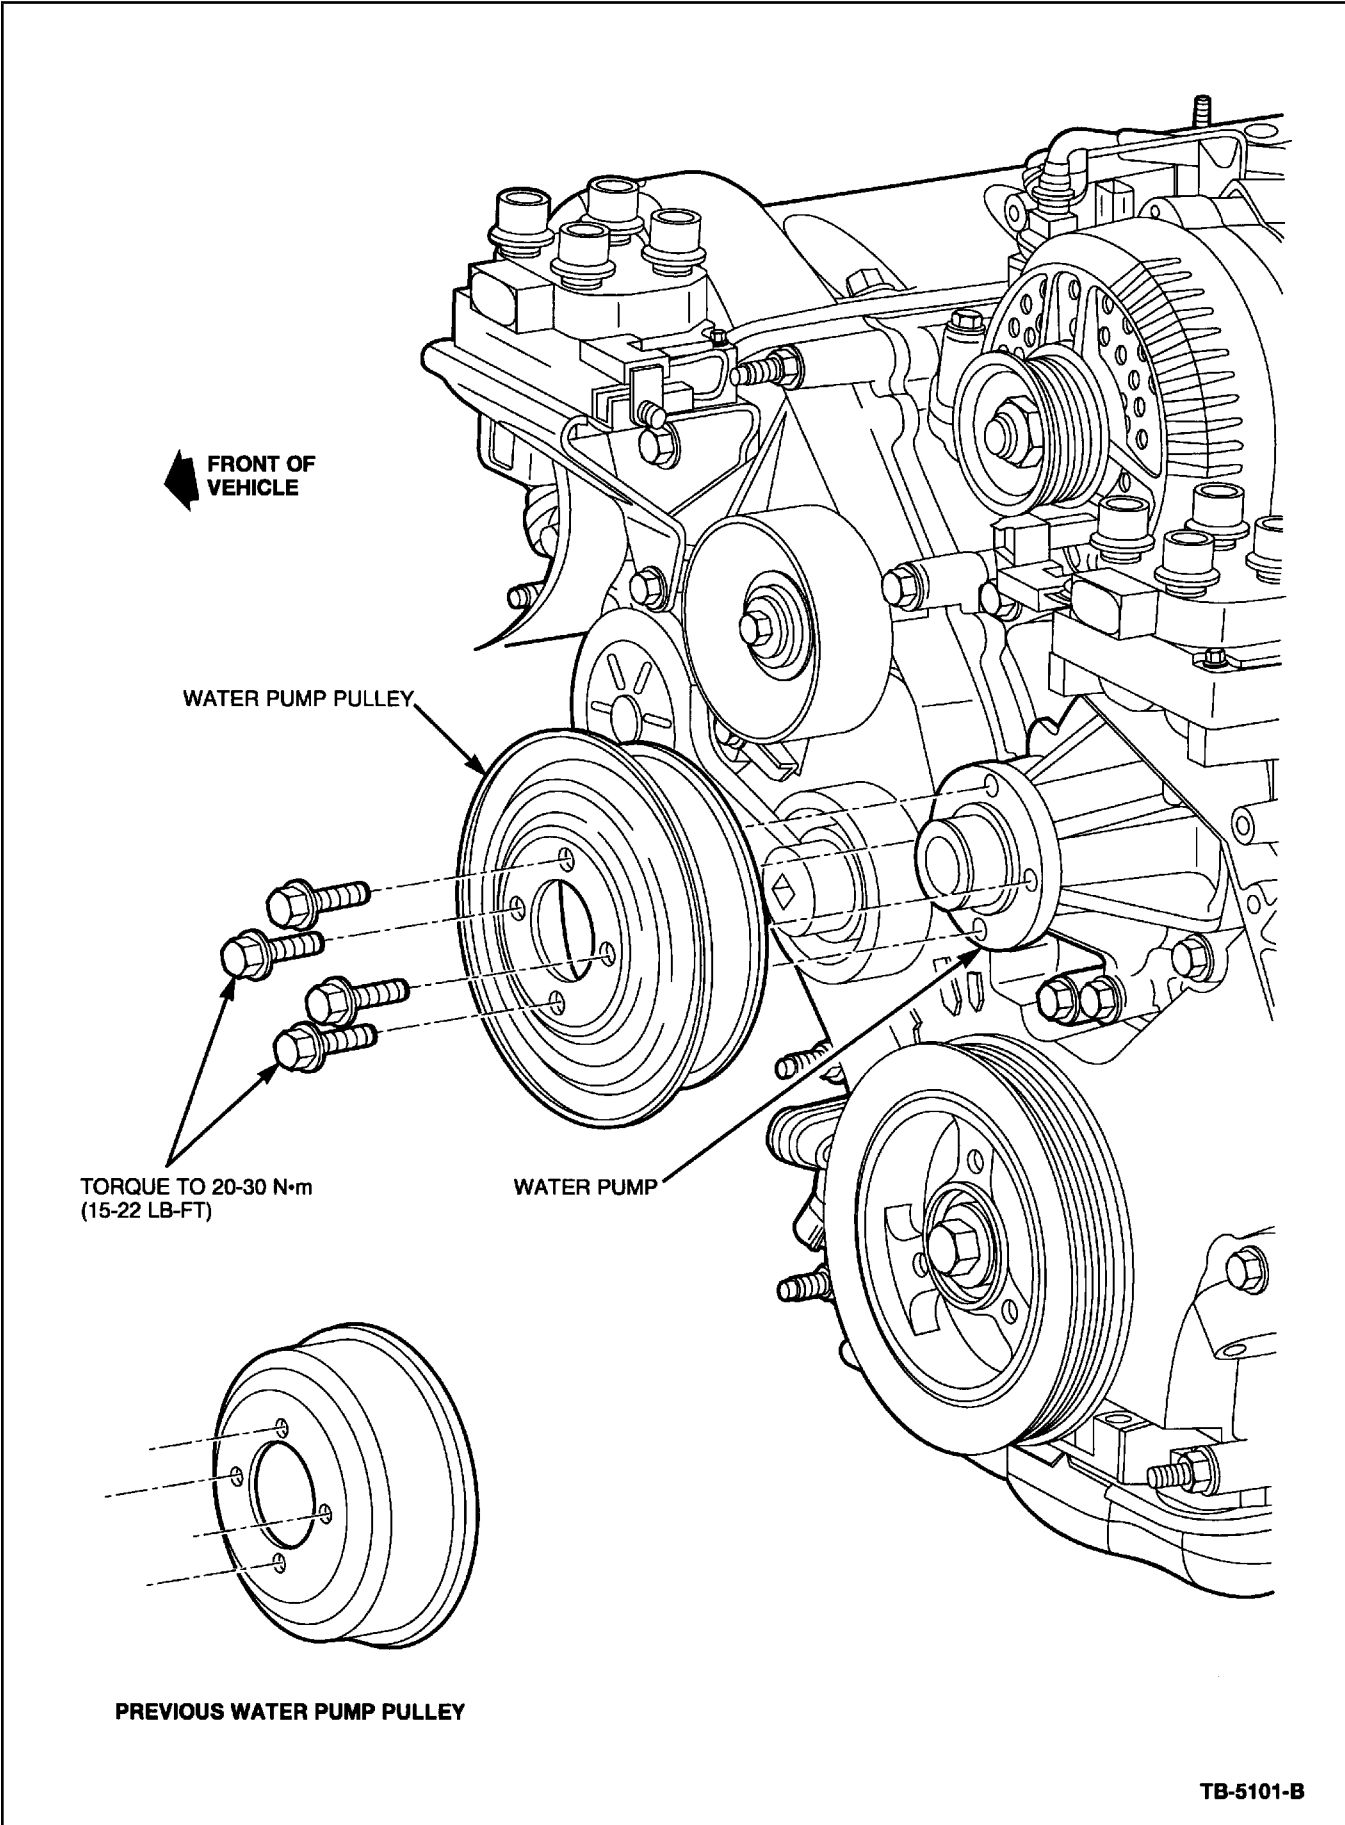

Figure 1 - Article 98-20-18
2. Verify that the vehicle has the new flanged water pump pulley installed (Figure 1). If raised flange pulley is not installed, remove and discard water pump pulley. Install new Water Pump Pulley (F6ZZ-8509-AA) and torque bolts to 20-30 N•m (15-22 lb-ft).